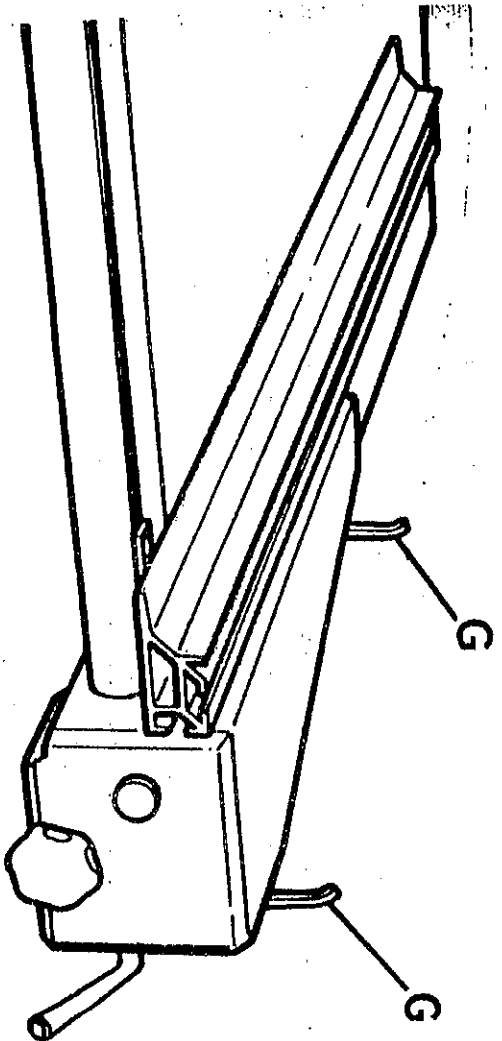
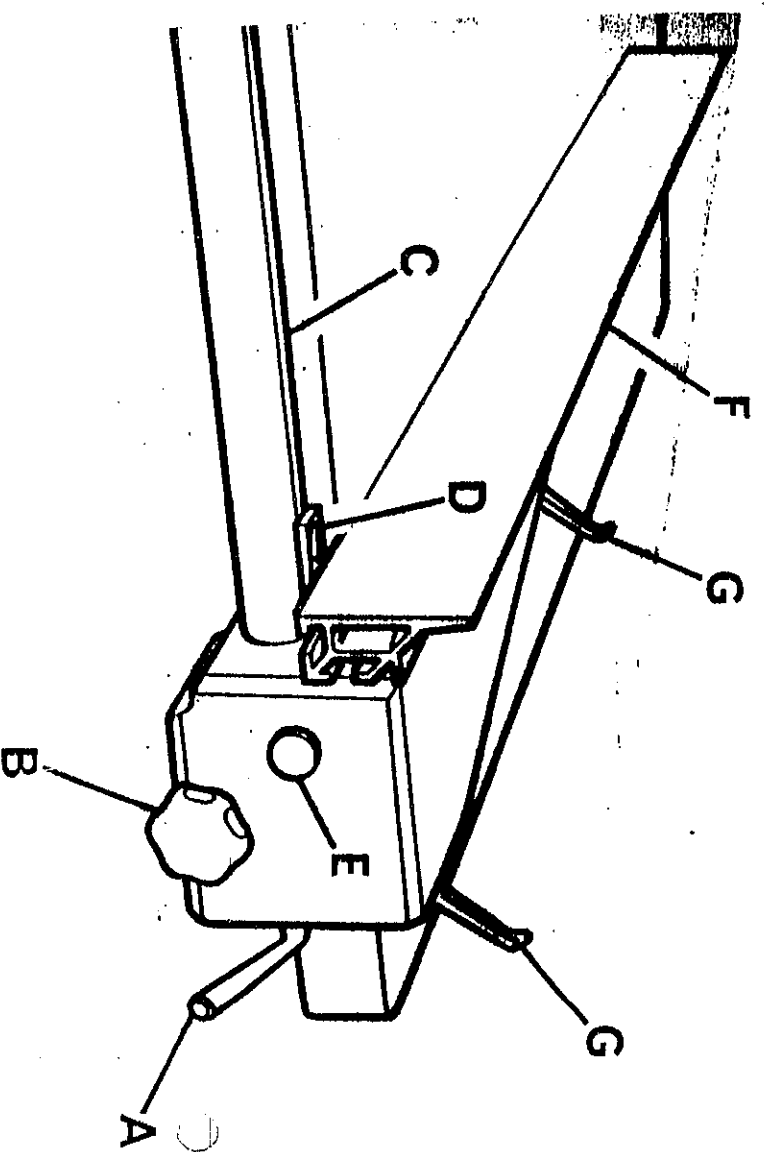

FIG 11
FIG 10
1. Lift handle "A" in FIG 10, then disengage the pinion from the front racked fence bar by pulling handwheel "B" out of the fence front bracket.
The fence plate "F" in FIG 10 has 2 positions. Position shown in FIG 10 is for use with deep stock. Position shown in FIG 11, is for use with faced panels, melamine, veneer, etc.
1. Loosen handles "G" in FIG 10, then slide fence plate "F" from the 2 mountings on fence body.
2. With the fence plate "F" removed, revolve the 2 fence locking plates one half turn each to ensure correct location when fence plate is re-fitted to position in FIG 11.
When the fence plate position has been changed as previously described, the pointer "D" in FIG 10 must be re-set accordingly.
1. Lift handle "A" in FIG 10, then move fence to a position which would allow a reasonable cut to be taken. Depress handle "A" to lock fence in position.
3. Accurately measure the width of timber after cut then loosen knurled screw "E" in FIG 10, and set rule pointer "D" accordingly. Re-lock knurled screw "E".